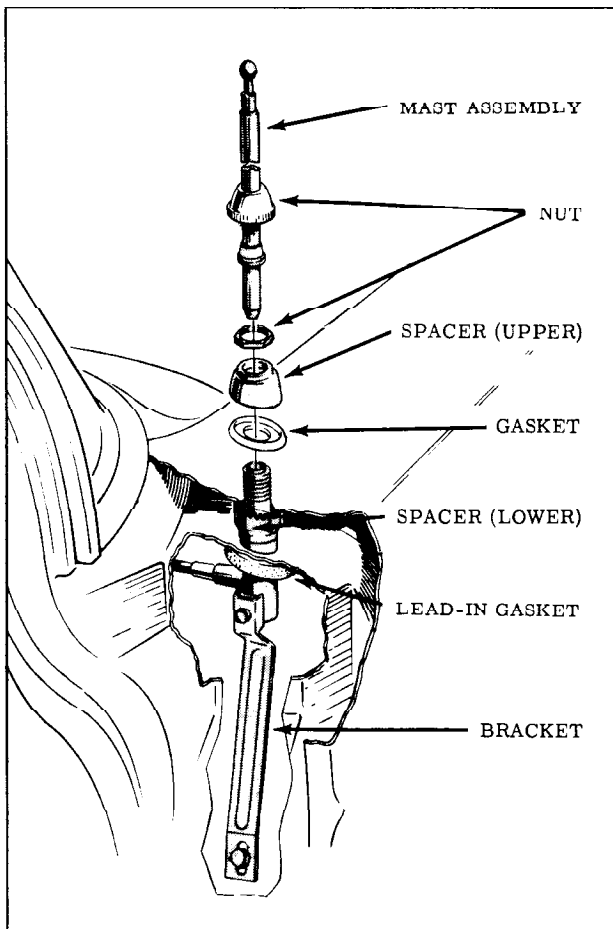

Fig. 15-20 Manual Antenna Installation
3. Refer to Fig. 15-20 and remove antenna assembly.